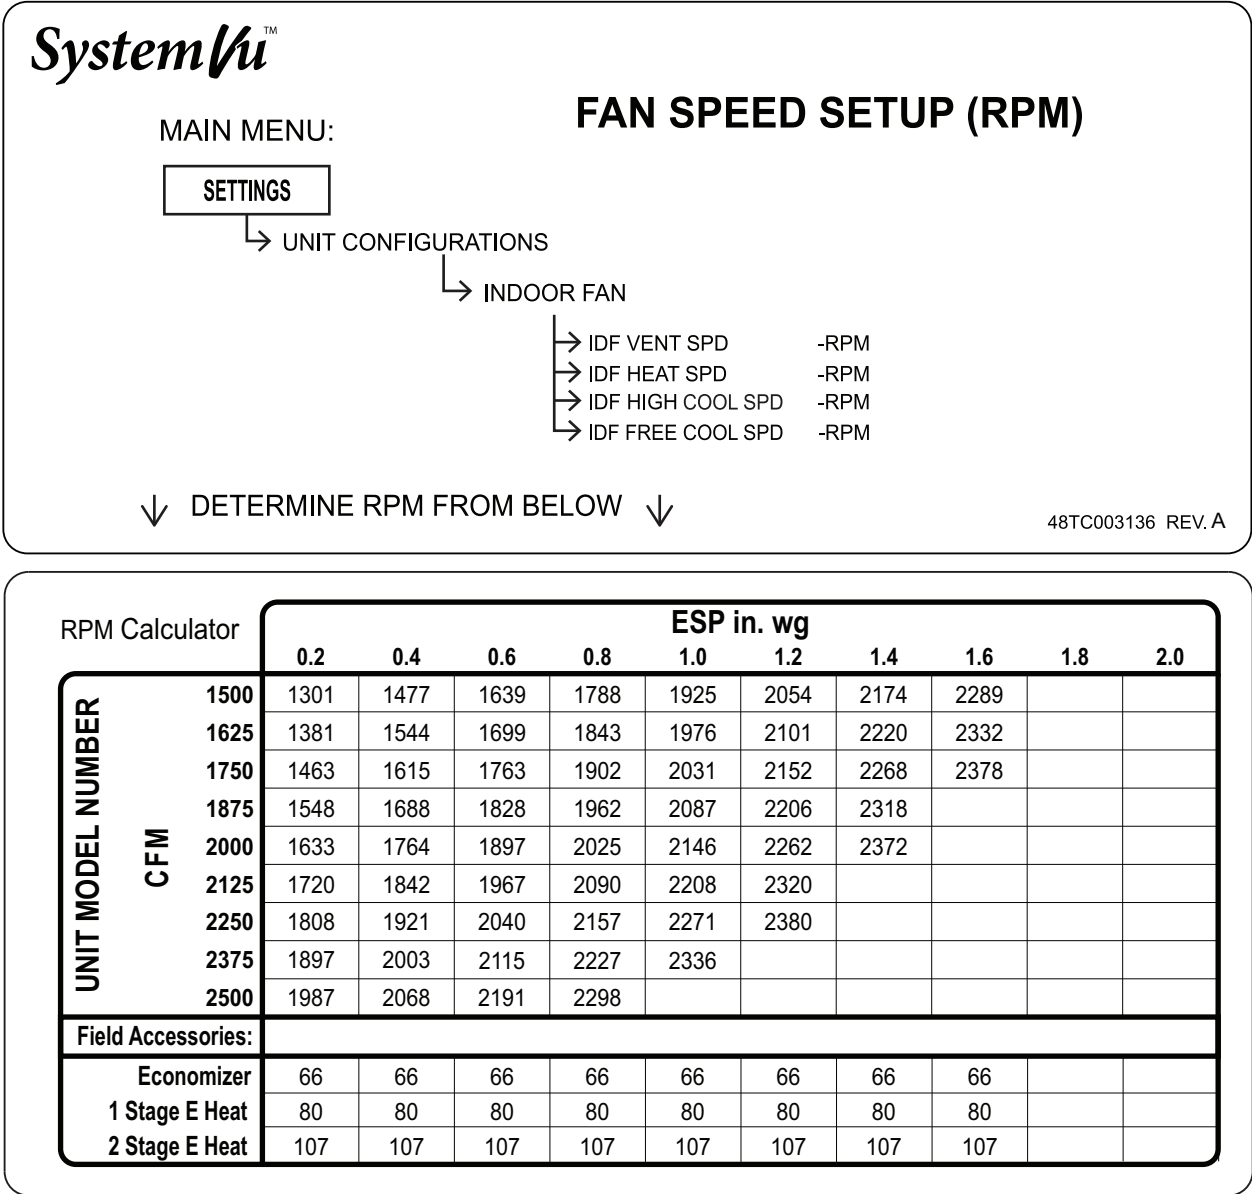

Fig. 4 — Example of Fan Speed Set Up Labels
The evaporator fan does not need to be checked for rotation as it only operates in one direction. Refer to the unit product data for full Fan Performance tables and physical data. The specific unit's fan performance table is printed and adhered to the control box high voltage cover. See Fig. 4 for an example fan performance table.
2. Using the chart on the Fan Speed Set Up labels (see Fig. 4), calculate the rpm from the cfm and ESP for the base unit plus any field accessories (as listed on the label).
8. Refer to the job specifications to set the following, determining the values per the RPM Calculator label (Fig. 4). Use the UP and DOWN arrow keys and the BACK key to set the values. Press ENTER after setting each value to continue to the next selection.